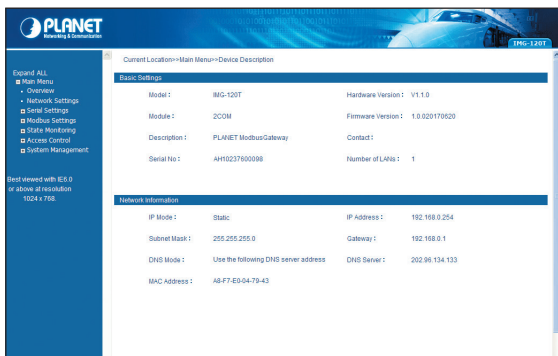

Figure 4-3: Web Main Screen of Industrial Modbus Gateway
3. After entering the username and password, the main screen appears as Figure 4-3 shows.